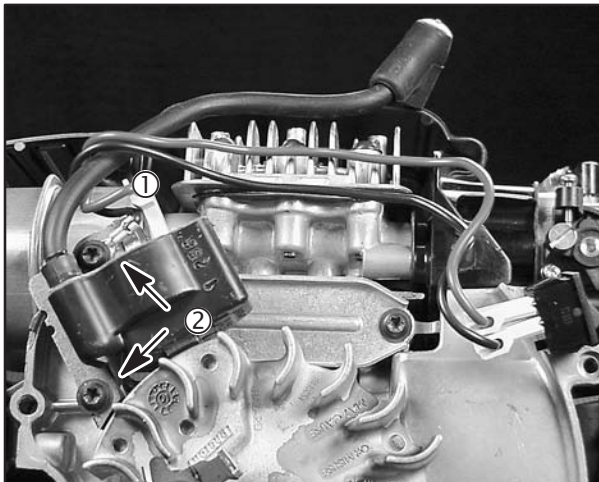

Fig. 17
1. Disconnect stop switch wire (1).
2. Remove 2 screws (2) and ignition coil with ground wire, Fig. 17.